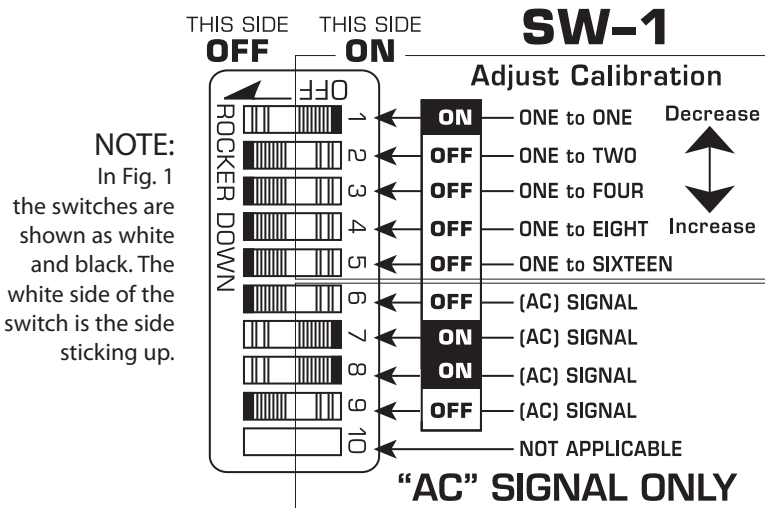

FIGURE 1
- Step 3: Recheck the positions of all SW1 dip switches (**FIGURE 1**).
- STEP 6: If none of the above steps have fixed the problem, the possibility exists that your vehicle's speed sensor wires have been swapped around. If you are hooked up on a two or three wire clip at the transmission, try the other wires in that clip or call the service department for additional advice at (724) 438-8750. Monday - Friday; 8am to 5pm EST